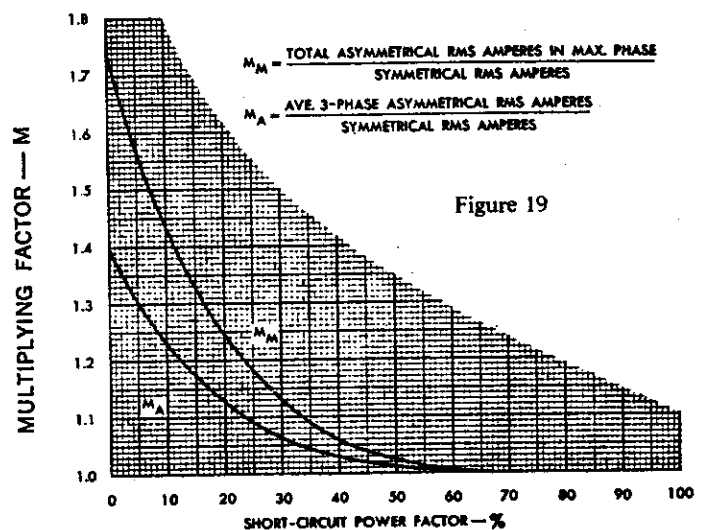

Figure 19
8. Asymmetrical short-circuit currents, if desired, can be found from the symmetrical values above by using a multiplying factor read from Figure 19 and corresponding to the short-circuit power factor at the point of fault. Use the multiplying factor from Curve M_A to find the average 3-phase asymmetrical amperes and Curve M_M to find the